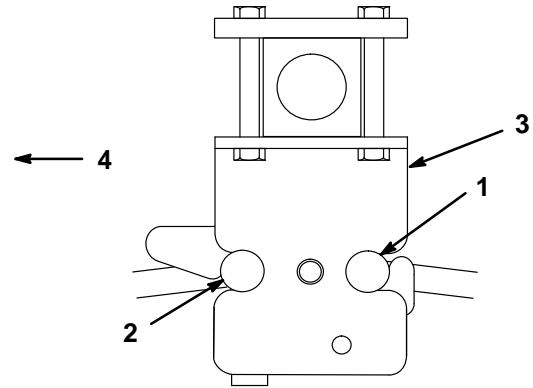

Figure 13
6. Place the tiller hitch bar into the slots in the rear of the rear Attach-A-Matic™. Press on the latches at the rear until they lock both the tiller and the jack shaft assembly in place (Fig. 13).